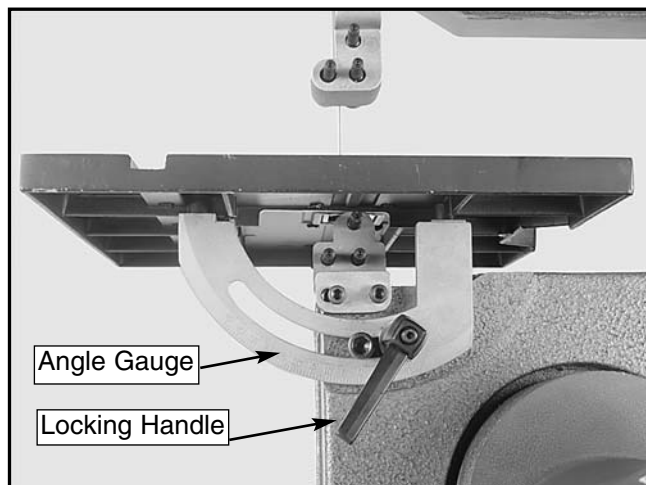

Figure 12. Table adjustment locations.
1. Loosen the locking handle below the table. **Figure 12.**